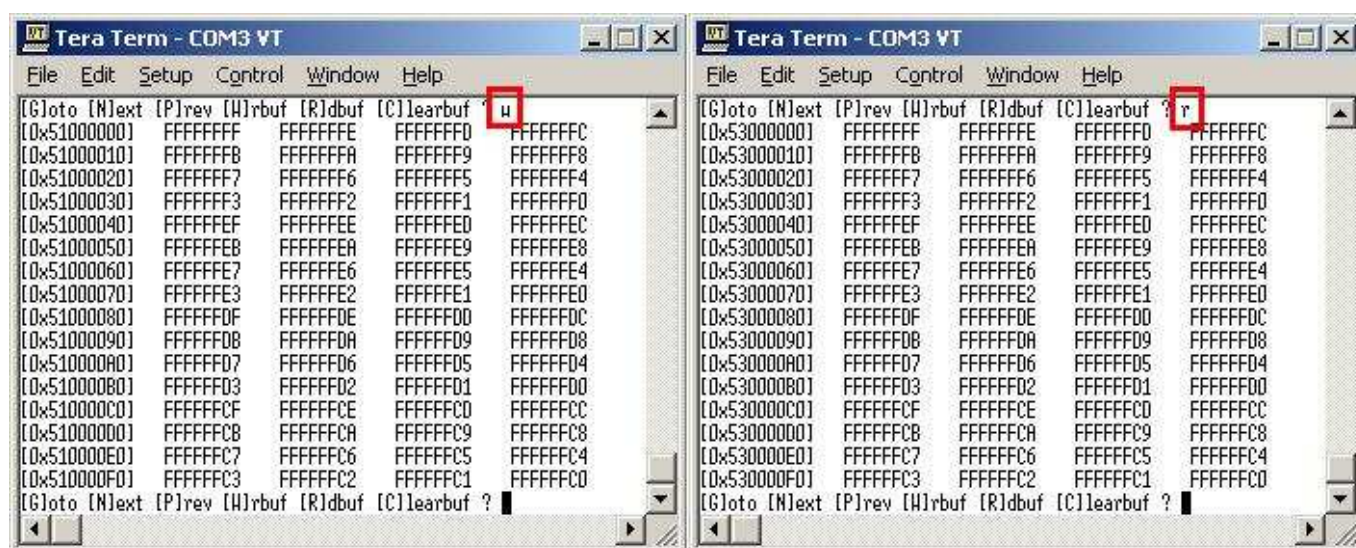

Figure 16 Read 256 byte data at top of write/read buffer
- 'W': this submenu is used to read 256 byte data at top of write buffer, as shown in Figure 16.
- 'R': this submenu is used to read 256 byte data at top of read buffer, as shown in Figure 16.